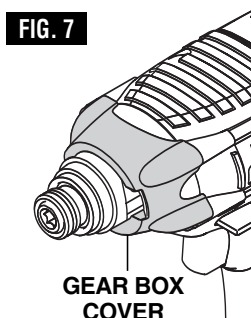

FIG. 7
2. Slide gear box cover into place (Fig. 7).